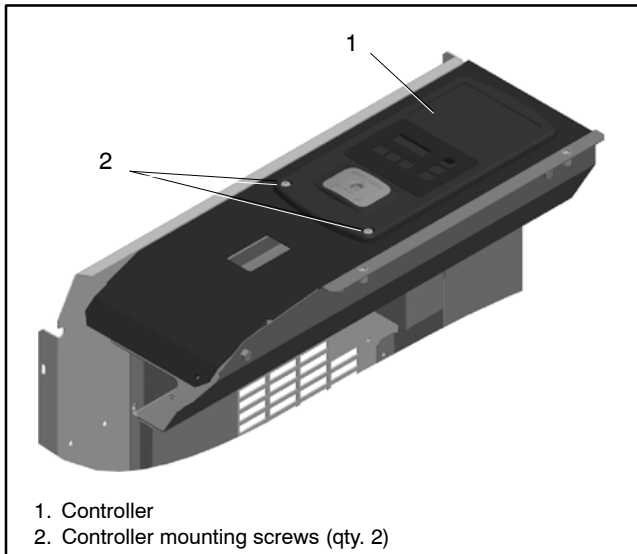

Figure 11 Controller Mounting (14/20RESA shown)
- Remove the two (2) screws securing the controller to the junction box and *carefully* lift the bottom edge of the controller. See Figure 11.